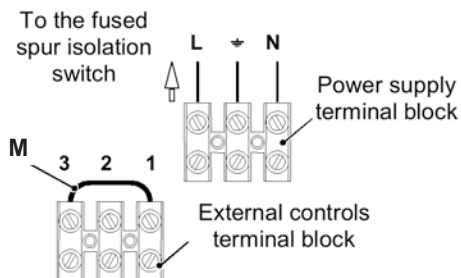

Fig. 6.17
- Connect the electrical supply flexible cord coming from the fused spur isolation switch to the power supply terminal block of the boiler (Fig. 6.17) keeping the same connections for the live (brown wire) and the neutral (blue wire). External 3 A fuse or fused plug with same current rating is recommended.
**When connecting any type of external control, the link M in Fig. 6.17 must be removed.**